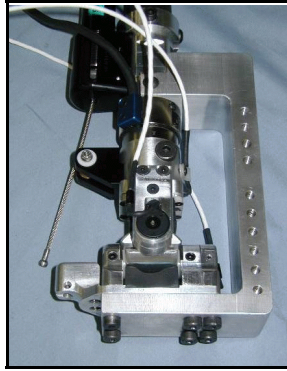

Figure 3.51
6. Attach the top of the calibration fixture to the base of the lower tibia tube using two shoulder bolts and two 1/4-28 x 3/4" BHSCS. See **Figure 3.51**.